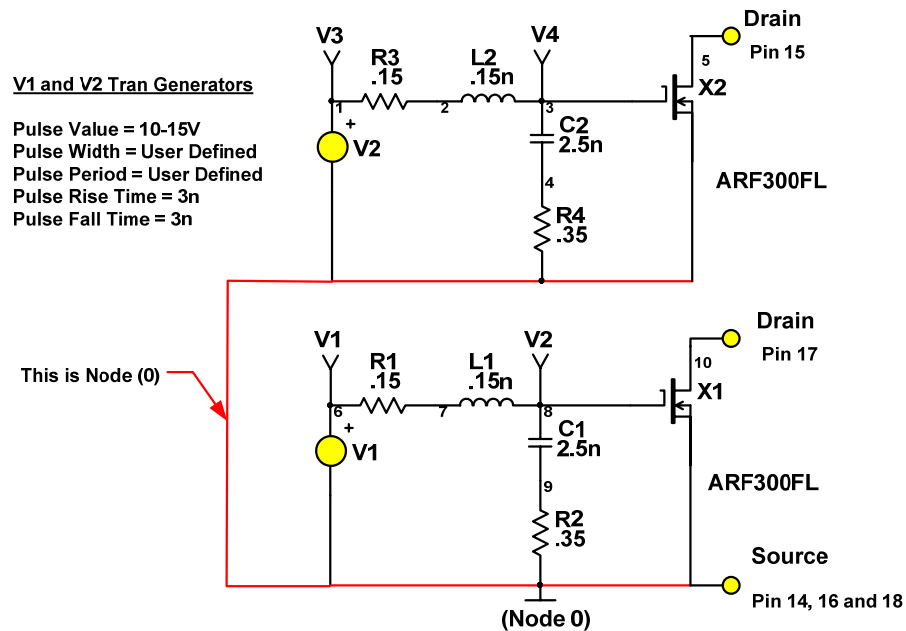

Figure 12 DRF1300
The Model illustrated in Figure 12 will operate correctly for any signal type or value at node (0).